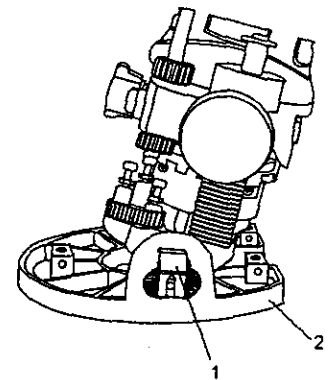

Fig. 18
- Loosen both bevel adjusting locks (1) by pulling them outward from the router base (2) (see Fig. 18).